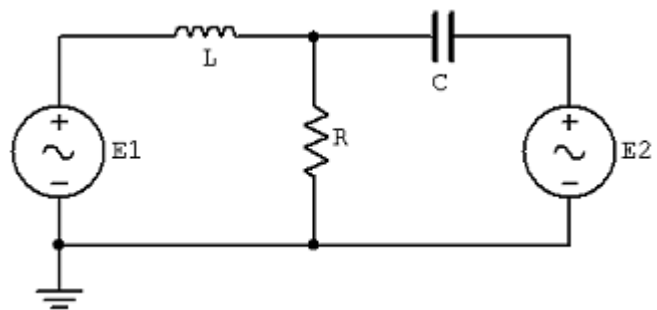

Figure 1
1. Typical function generators have a 50 $\Omega$  internal impedance. These are not shown in the circuit of Figure 1. To test the Superposition Theorem, sources E1 and E2 will be examined separately and then together.
2. Consider the circuit of Figure 1 with  $C=0.1 \mu\text{F}$ ,  $L=10\text{mH}$ ,  $R=1\text{k}\Omega$ , using only source  $E1=2 \text{ V}_{\text{p-p}}$  at 1 kHz and with source E2 replaced by its internal impedance of 50  $\Omega$ . Using standard series-parallel techniques; calculate the voltages across E1, R, and E2. Remember to include the 50  $\Omega$  internal impedances in the calculations. Record the results in Table 10.1.
6. Consider the circuit of Figure 1 using both sources,  $E_1=2V_{p-p}$  at 1 kHz and  $E_2=2V_{p-p}$  at 10 kHz. Add the calculated voltages across  $E_1$ ,  $R$ , and  $E_2$  from Tables 1 and 2. Record the results in Table 3. Make a note of the expected maxima and minima of these waves and sketch how the combination should appear on the scope.